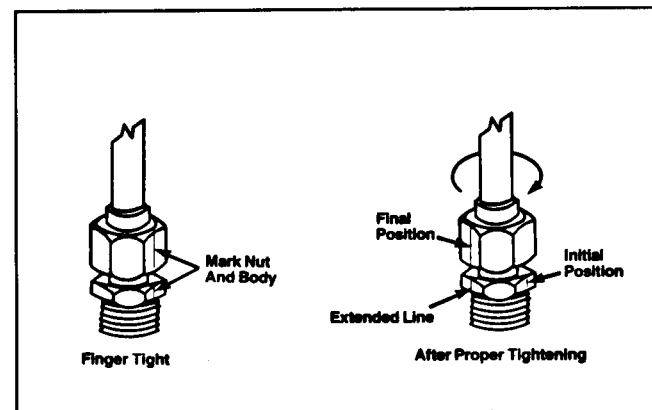

Figure 21
5. Mark the nut and fitting body (Fig. 21). Hold the body with a wrench. Use another wrench to tighten the nut to the correct flats from finger tight (F.F.F.T.). The markings on the nut and fitting body will verify that the connection has been tightened.